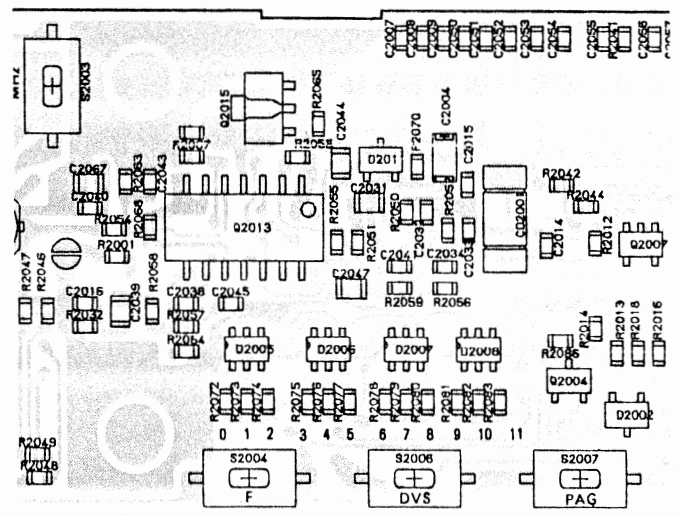

Figure 7.
From the factory, pin 5 of the microphone jack is wired to enable certain functions by pressing the **D/MR** or **CALL** button on the supplied microphone. The function selectable differs according to transceiver version type, as configured by jumper settings on the front of the Control Unit PCB (see Figure 7 at the right and Table 1 on the next page).
- ☐ Note the location of jumper pads 8, 9 & 10 on the bottom left of the front of the Control Unit PCB (Figure 7).